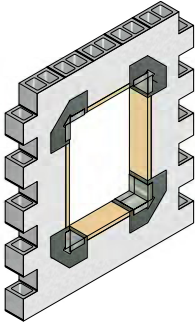

Figure 9
4. Place the MasterSeal AWB 975 FIB into the wet MasterSeal AWB 660/MasterSeal AWB 665/MasterSeal AWB 660 I. (See Figure 9).